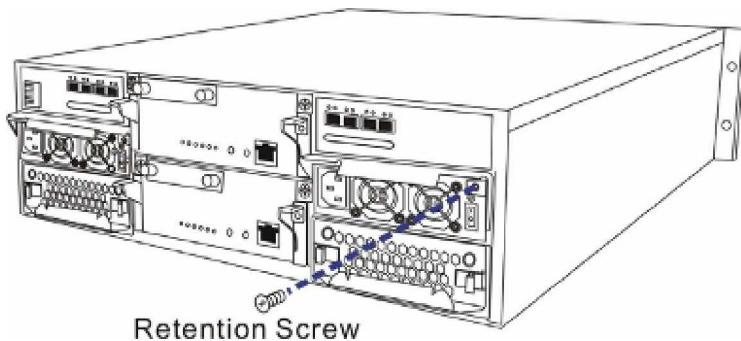

Figure 5-22: Removing the PSU Retention Screw
Step 3. Remove the PSU retention screw at the top right-hand side of the PSU. (See *Figure 5-22*)